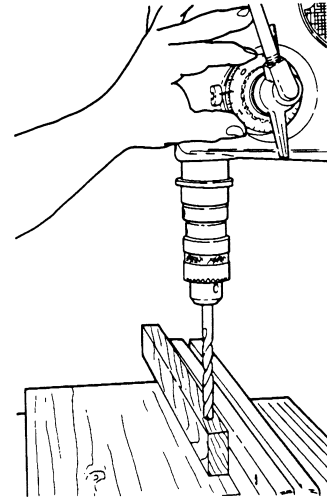

Figure C-26
- Same as "Drilling Through" except extend the quill until the cutting flutes of the drill bit just touch the stock. Then set and lock the depth control. See Figure C-26.